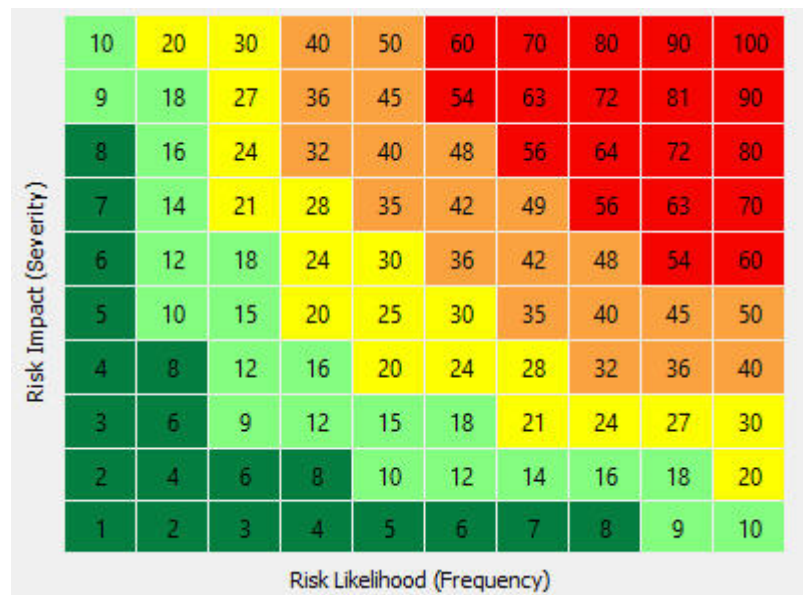

FIGURE 3 Risk matrix.
In other types of Risk Registers, *Likelihood* (L) and *Impact* (I) values can be used and entered for each risk element, and the product of these two variables is termed the *Key Risk Indicator* (KRI), where $KRI = L \times I$. These KRI values can be color coded into various regions based on their respective values. For instance, Figure 3 shows a 10×10 matrix where the columns going from left to right represent Likelihood from 1 to 10 (low to high), and the rows from bottom to top represent the Impact from 1 to 10 (low to high). The values inside each of the cells represent the KRI, and the color coding depends on the computed KRI (typically, lower KRI values are green, medium KRI values are yellow, and high KRI values are red). In a later section, we showcase examples of how these KRI values can be incorporated into the ERM Risk Register. As will be seen later, the color coding, matrix size, and category labels can be customized as required.